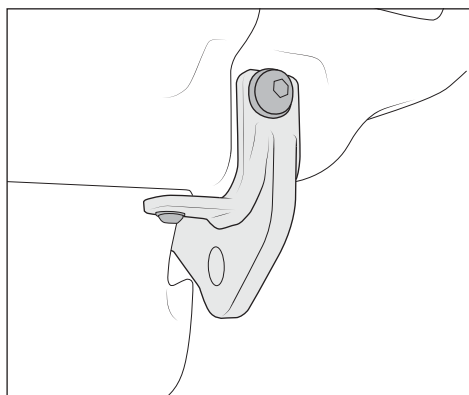

Figure 33
1. Rotate tow loops up into final position. Install black M8x25mm button head bolts with washer through the lower tab in the tow loop, through the skidplate, and into the center section U-nut. Install black M12x50mm button head bolt and washer through front hole in tow loop, through bumper and reinforcement bracket, and install flange nut on back side. Torque M12 bolt to 90ft-lb. and M8 bolt to 20ft-lb (fig. 33).